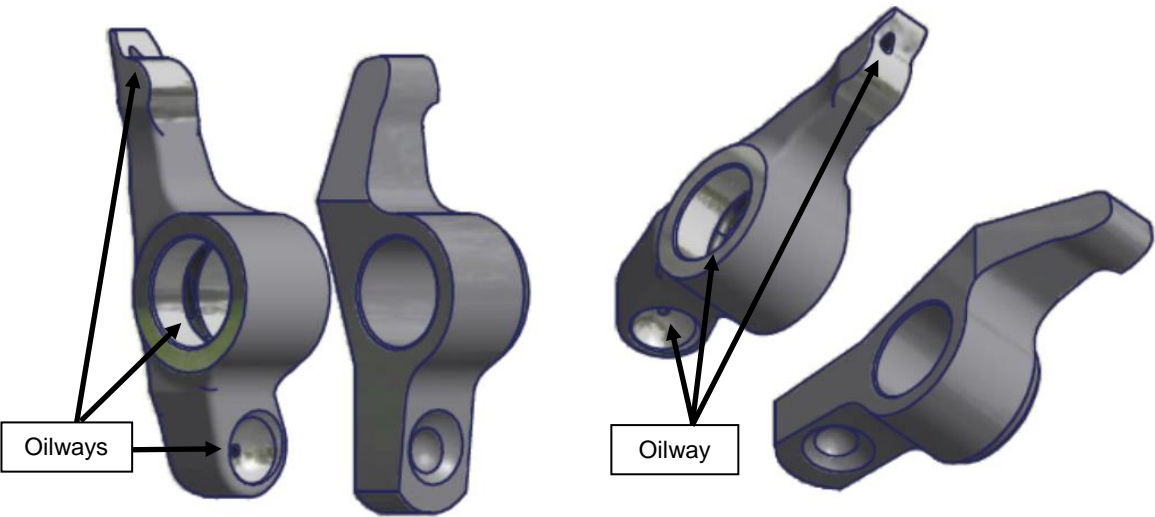

Figure 100 – Solid VS Hollow Valve Rockers
- For engines using the hollow pushrod lubrication system the valve rockers are equipped with an oilway running from the pushrod socket to the tip of the rocker (see Figure 100). This oilway also feeds into a groove in the bush installation bore. At overhaul or when new parts are fitted these oilways must be inspected visually and using a fine probe (such as a 1.0mm drill bit) to ensure they are open and free of obstructions. After probing blow the oilways out with compressed air to shift any debris.